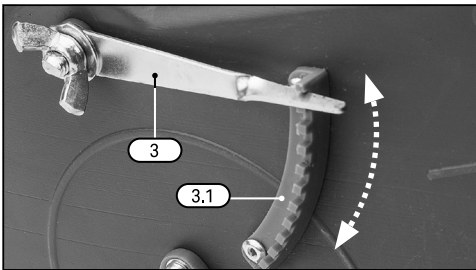

Fig. 5
4.1 Adjusting the Texture Pattern (Fig.5)